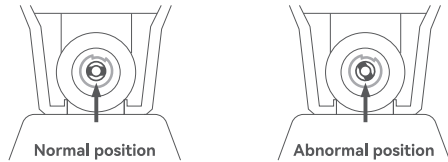

figure 1
- Turn the connector back to the normal position as shown in the **figure 1**.